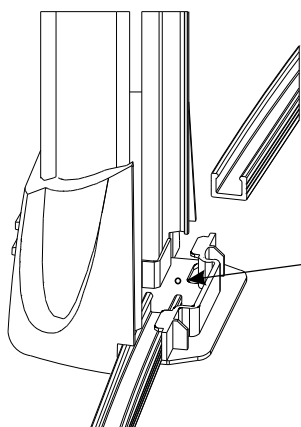
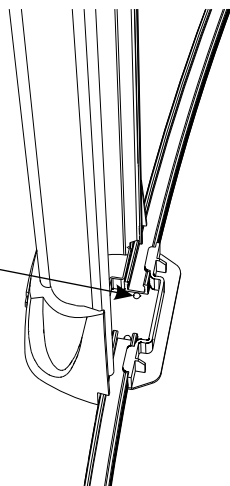
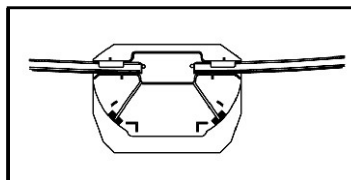

Fig. 25
Fig. 26
Fig. 27
- C) You should have an even number of the longest bottom wall rims, as well as, an even number of bottom cuffs. These will form the curved ends of your pool. Half of these wall rims and cuffs will go on one end and the other half on the other end. Slide each wall rim into the cuff, up to the stop as shown. (Fig.25, Fig.26 & Fig.27). Be sure that the cuff, is outside of the half circle created on each side of the pool. Once all wall rims are assembled, you should now be able to see the entire shape of the oval pool on the ground.